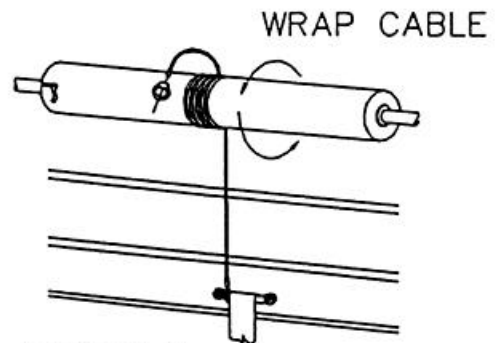
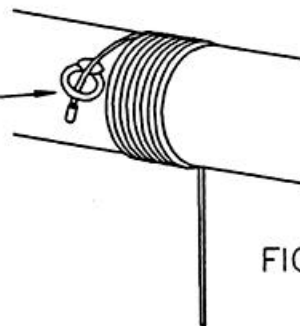

FIGURE 3
FIGURE 4
4. Wrap loose end of cable around large tube in direction of free end of spring hook (see Figure 3). Grasp large tube tightly, rotate it slightly to move screwdriver from door, remove screwdriver, insert cable through washer, and tap washer tight against cable with hammer (see Figure 4 and CAUTIONS with Figure 4).